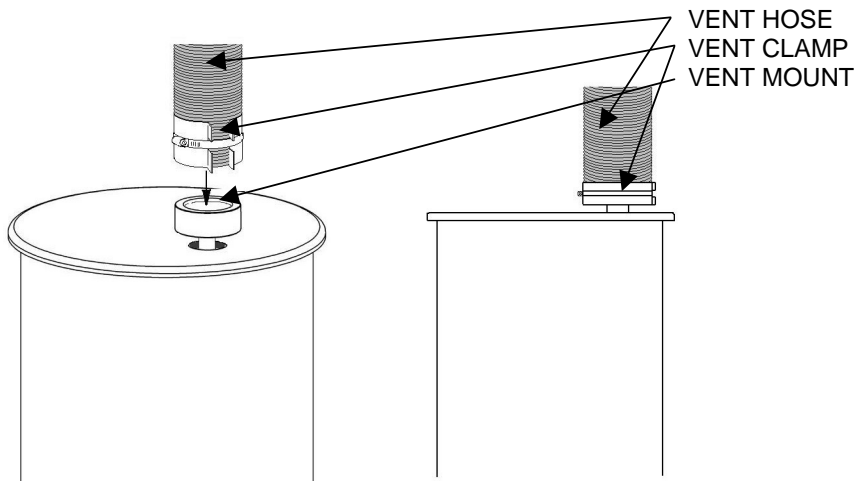

Figure 2
5. **PREPARING CONDENSER COLUMN (MAGIC BOX) AND CONNECTING THE VENT:** The condenser column or magic box acts as a vent for the system and as a secondary condensing module. The condenser column is shipped empty and must be filled with tap water prior to operation. Rotate the column lid, pour water into container until water level is 1" below top of container. Replace lid and attach vent hose to vent mount on column (see figure 2). Attach other end of vent hose to a formidable vent away from any source of ignition.